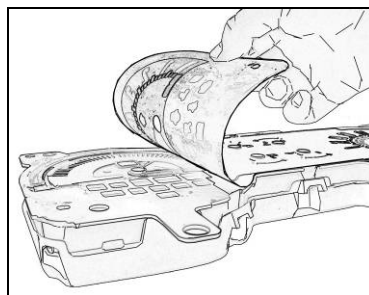

Figure 9
6. Remove the Original appliqué from the cluster by peeling it back from one corner (See figure 9). Pull it slowly making sure that the lighting components underneath do not come out and get disoriented.